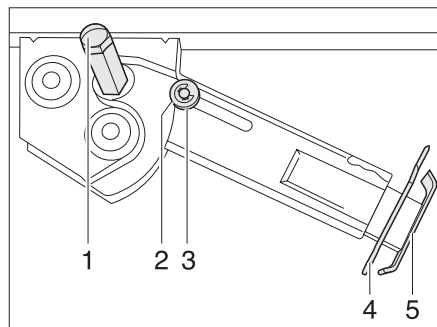

Fig. 20 Steady leg
- ▶ Place the socket spanner on the hexagon nut (Fig. 20,1) and rotate until the steady leg is in a perpendicular downward position.
- ▶ Remove the splint (Fig. 20,4) out of the support foot extension (Fig. 20,5).
- ▶ Place the socket wrench on the hexagon nut (Fig. 20,1) and rotate until the steady leg is clear of the ground.
- ▶ Push in the support foot extension (Fig. 20,5) and insert the splint (Fig. 20,4) in the drilled hole in the support foot extension.
- ▶ Rotate the hexagonal nut (Fig. 20,1) with the socket spanner until the steady leg has swung upwards and the guide disc (Fig. 20,3) has completely retracted into the notch (Fig. 20,2).